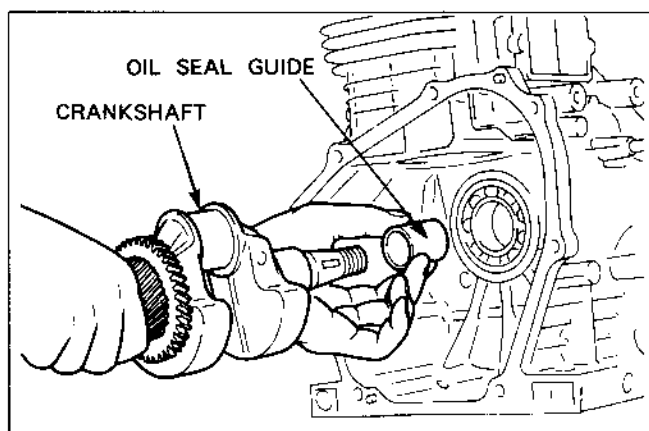

Fig. 42
- (1) Install crankshaft on crankcase using an oil seal guide to avoid damage to oil seal. (See Fig. 42.)
- (2) Install woodruff key for flywheel on crankshaft.